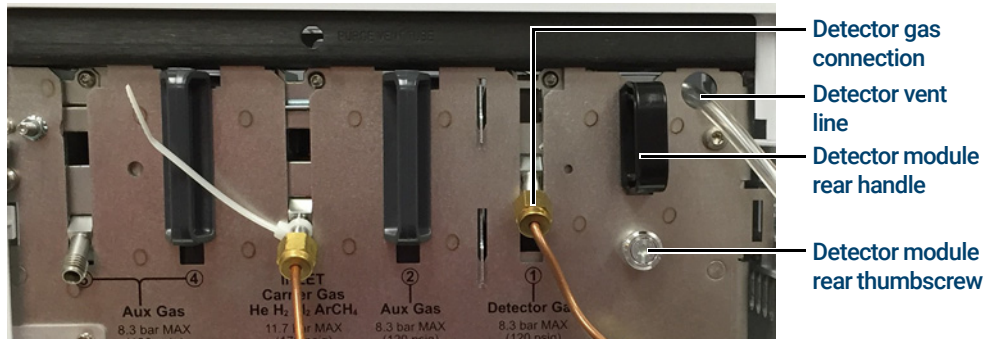

Figure 6. Detector EPC module gas connection, vent line, detector module rear handle and thumbscrew
- f Turn off the detector gas at the source, and remove the gas line connection from the detector EPC module. See **Figure 6**.